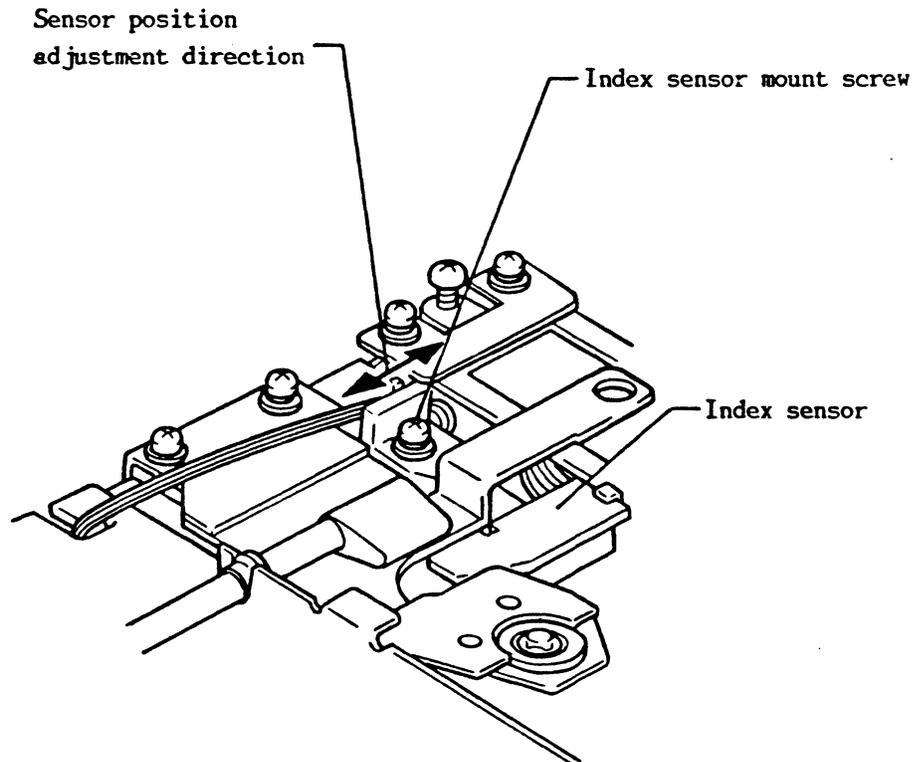

Fig. 421 Index Sensor Adjustment
- (6) Check if the true value of the index burst timing is within the range  $200 \pm 200 \mu \text{sec.}$  (for 1MB) and  $165 \pm 165 \mu \text{sec.}$  (for 1.6MB).
- (7) When the value is not within the specified range of item (6), adjust the index sensor position using the following procedure.
- (a) Loosen the index sensor PWB mount screw (refer to Fig.421) and adjust so that the true value of the index burst timing is within the specified range of the item (6).
- (b) After tightening the mount screw to the specified torque of item (6), repeat the adjustment until the true value of the index burst timing is within the specified range.
- (8) Remove the alignment disk.